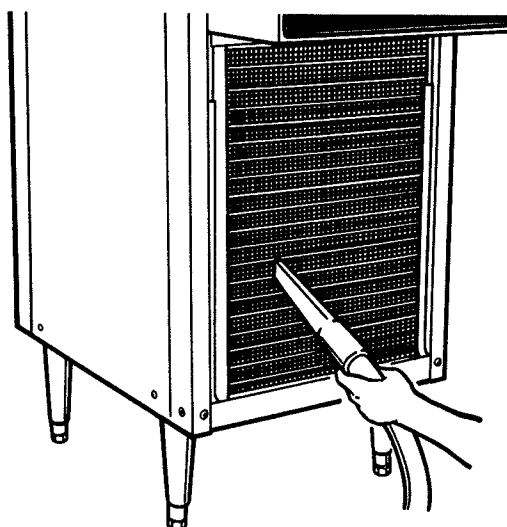
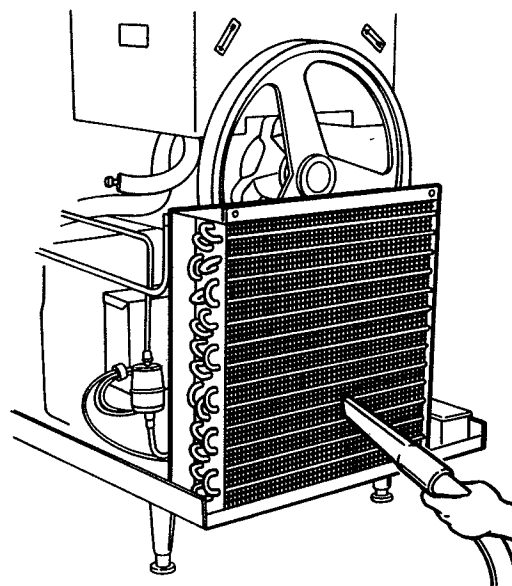

Figure 54. Floor Model Condenser Cleaning
Figure 55. Counter Model Condenser Cleaning
- A. Remove the front lower panel on **floor** model (Fig. 54). On **counter** models, removal of both side and rear panels is necessary (Fig. 55).
- C. If the condenser is dirty, vacuum all loose dirt (Figs. 54 and 55).